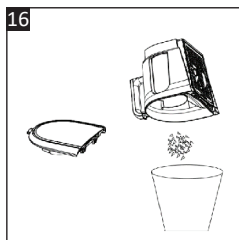

Fig. 16
3. Empty the contents in a rubbish bin (**Fig. 16**).